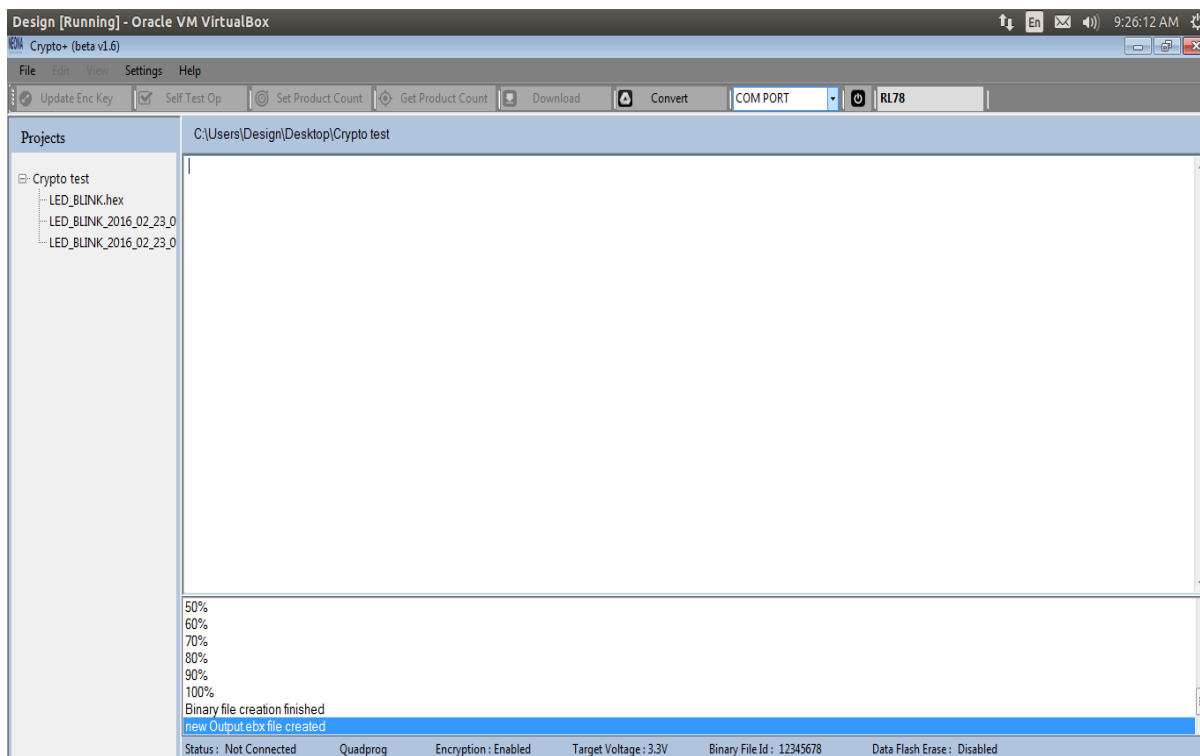

Figure 2.27
STEP 5: After the successful creation of the .ebx file a message ‘new output ebx file created’ is displayed in the text view and the .ebx file will be added in the tree-view as shown in figure 2.27.